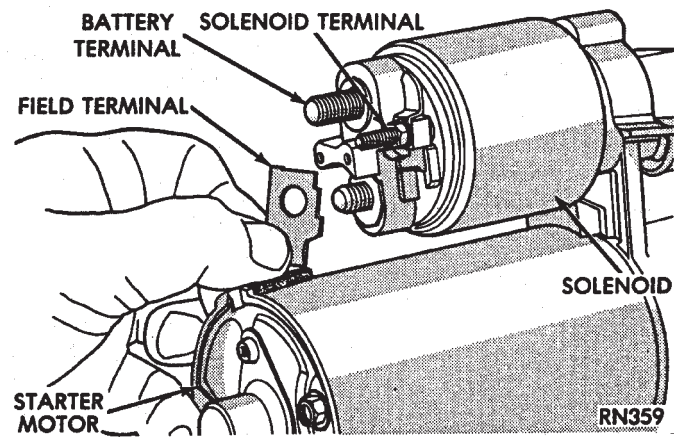

Fig. 15 Field Coil Terminal
(2) Remove field terminal (Fig. 15).